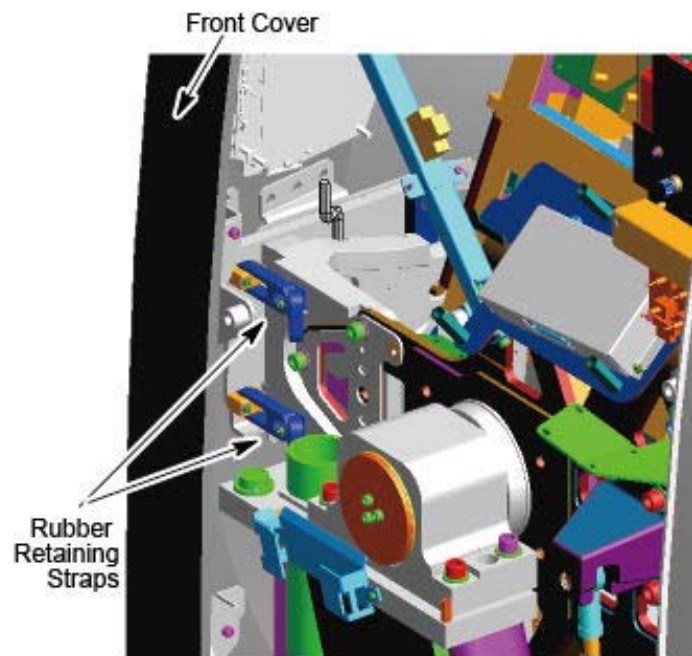

Figure A-21 Rubber Retaining Straps and Cover Locking Mechanism
- B.) Disengage the rubber retaining straps on right side. See Figure A-21. You may find it helpful to lift "up" on the cover to align the stud while attaching the rubber retaining straps.